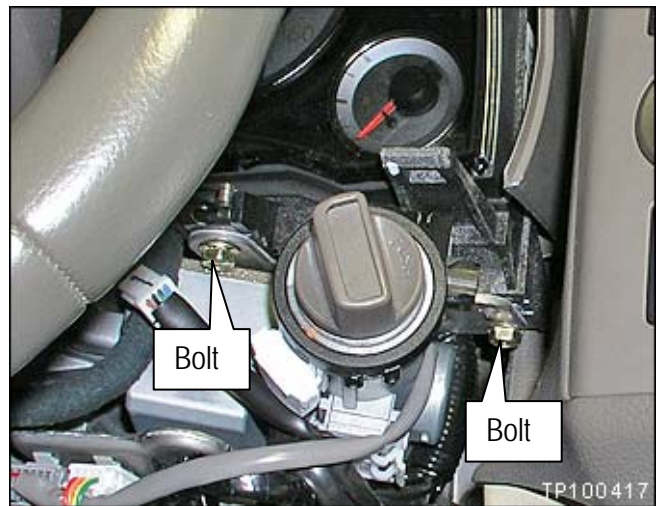

Figure 13
- a. On the lower right side of the meter assembly, remove the 2 bolts shown in Figure 13.